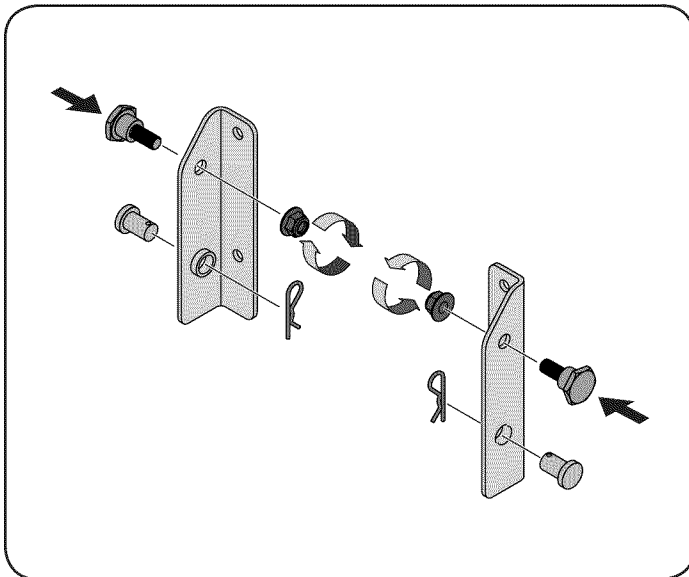

Figure 1
1. Install a shoulder bolt from your hardware pack on each bracket, securing them with flange lock nuts also included in the hardware pack. Refer to Fig. 1.
2. Insert the clevis pins from your hardware pack on each bracket, securing them with clip pins also included in the hardware pack. Refer to Fig. 1.